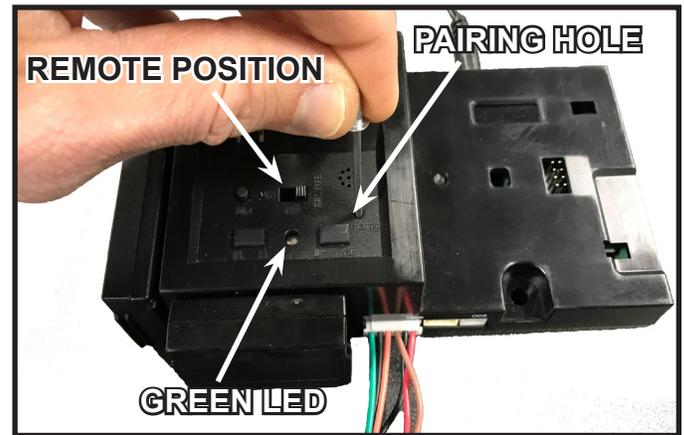

Figure 4 Pairing IFT2-ECM
2. Locate the pairing hole on the ECM. See Figure 4. Using a paper clip or similar item, press and release the pairing button. The ECM will “beep” once and the green LED will blink for 14 seconds. During the 14 seconds, it is normal for accessories such as lights or fan to energize momentarily.
4. Locate the pairing hole on the ECM. See Figure 4. Using a paper clip or similar item, press and release the pairing button. The ECM will “beep” once and the green LED blink for 14 seconds. During the 14 seconds, it is normal for accessories such as lights or fan to energize momentarily.